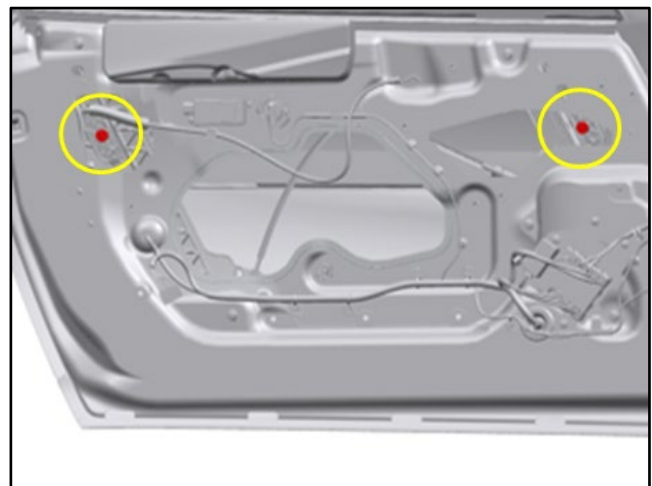

Figure 13
25. Lower the door glass to get access to the two bolts that hold the door glass to the door glass regulator. (Refer to Figure 13.)